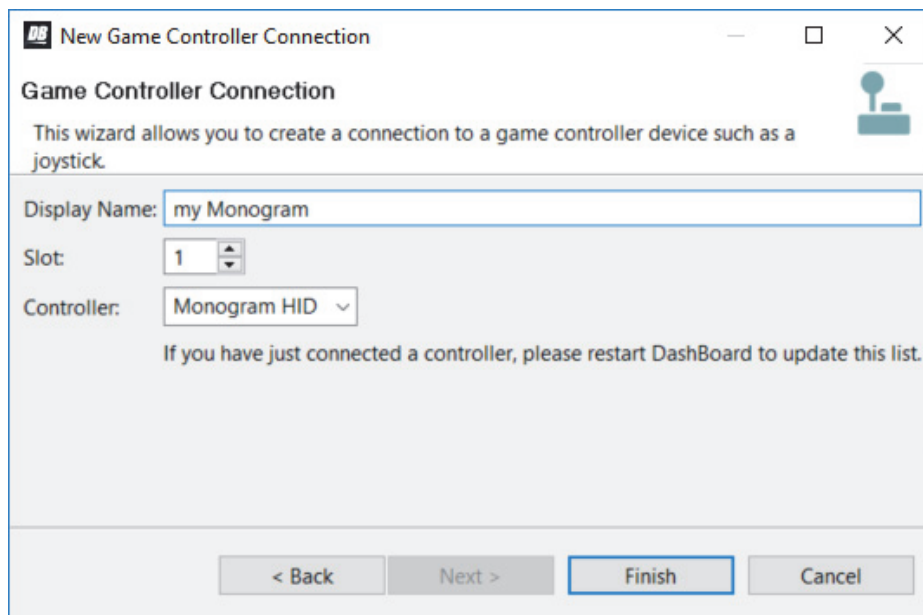

Figure 33 - Connecting to a USB controller
- In the **Wizards** list, expand **Input Devices**, select **New Game Controller**, and then tap **Next**. The **New Game Controller Connection** dialog box appears (Figure 33).